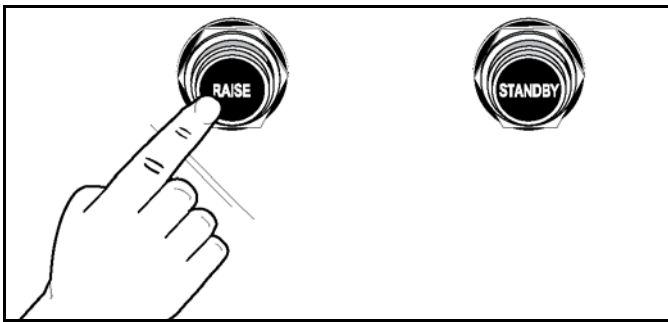

Figure-85
2. To raise the upper platen to the Open position to resume cooking, press the RAISE button. See Figure-85.